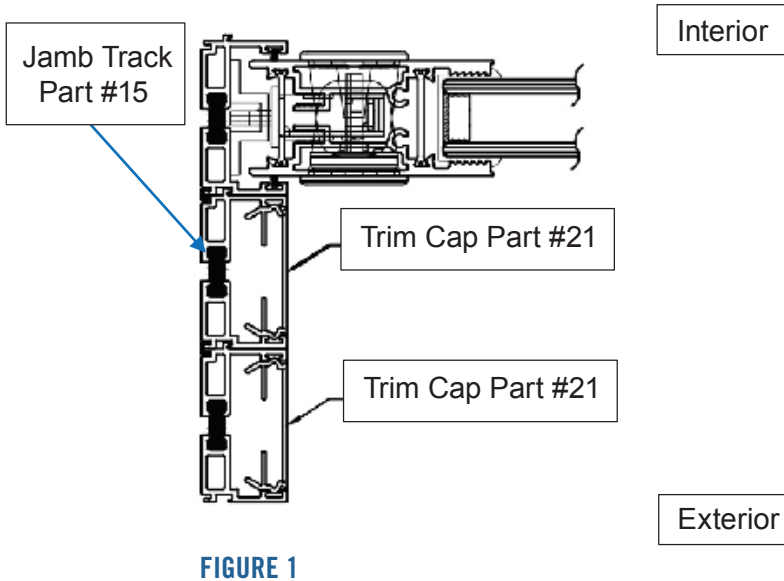

FIGURE 1
34. Install the longest trim cap pieces (Part #21) into the exterior and center jamb tracks (Part #15) on the operable side as shown in Figure 1 then install the other two trim caps that are the same length into the interior and center jamb tracks shown in Figure 2.